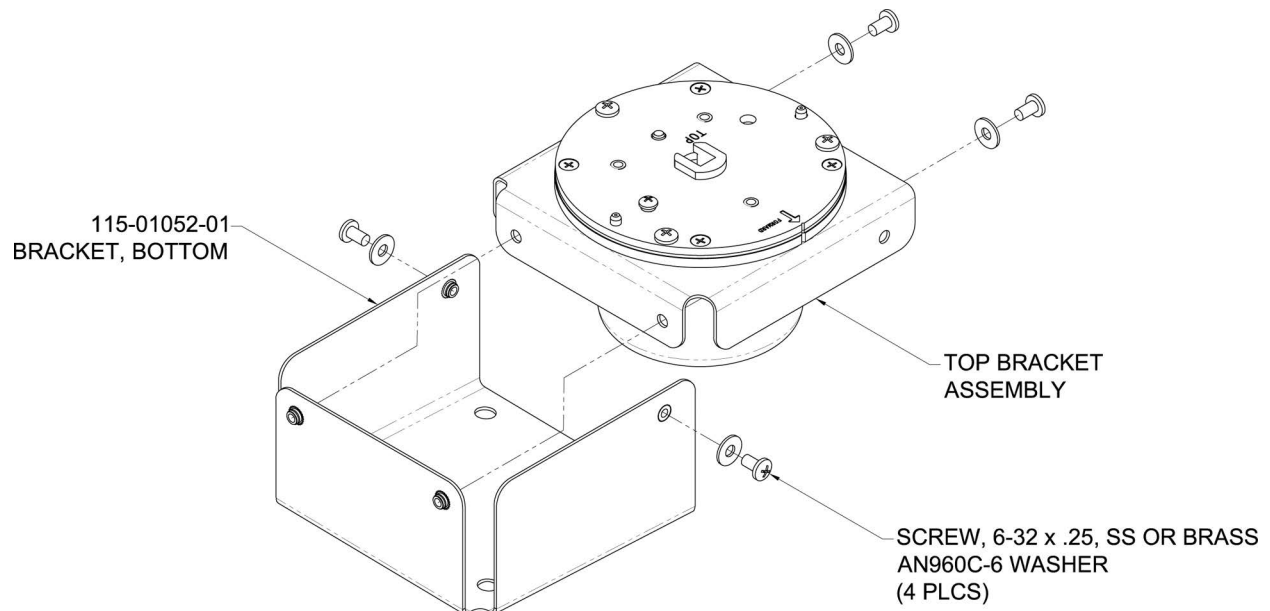

Figure B-6 Lancair IV/IV-P GMU 22 Mounting Bracket
3. Attach the Top Bracket Assembly (115-01052-00) to the Bottom Bracket Assembly (115-01052-01) as shown in Figure B-6.